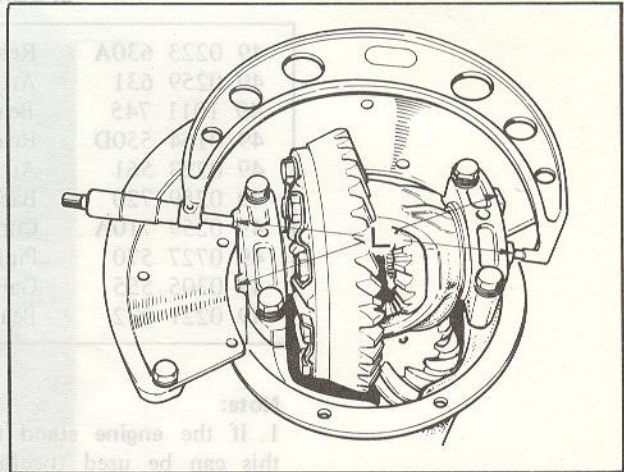

Fig. 9-32 Adjusting bearing preload (case spread)
3. The preload on the differential bearings is obtained by tightening the adjusters. Tighten the adjusters until the distance between both pilot sections on the bearing caps becomes 185.428 ~ 185.5 mm (7.3004 ~ 7.3033 in), as shown in Fig. 9-32.